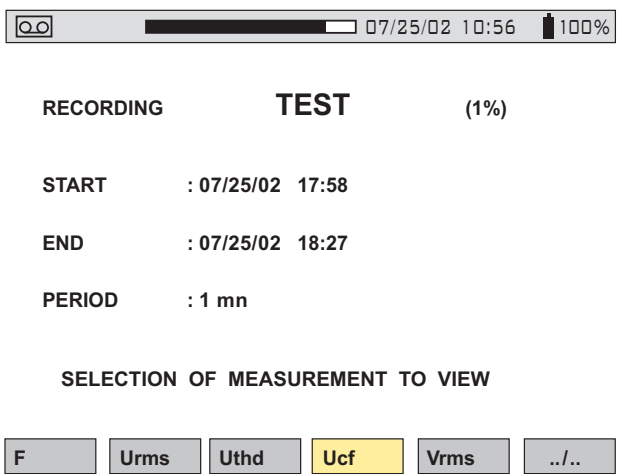
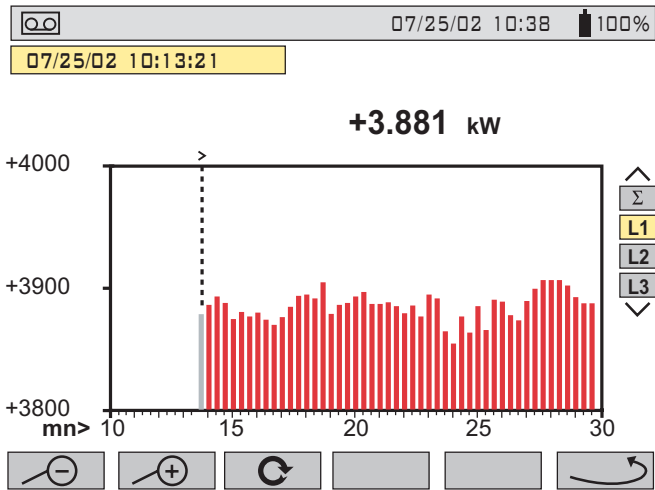

Figure 5-21
Figure 5-24
- Select the recording to be displayed using the  buttons. Then, open the recording by pressing the  button. A screen similar to figure 5-21 will appear.
- ① MIN, AVG and MAX values over the display period
- ② MAX value
- ③ AVG value
- ④ MIN value
- ⑤ Returns to the Measurement Selection Screen (see Fig. 5-21)
After returning to the Measurement Selection Screen (see Fig. 5-21) use the “../.” button to view more recorded parameters, if necessary. Pressing the “W” button, will bring up a screen similar to Fig. 5-24 below.